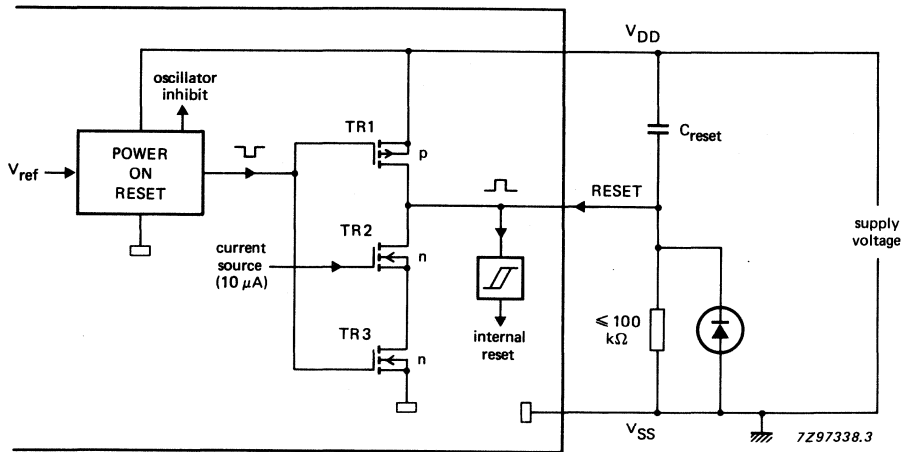

Fig. 24 Stretched power-on-reset with external components.
2. If  $V_{DD}$  has a slow rise time then the RESET signal should be stretched by an external RC circuit (see Figs 24 and 25). In the event of a short drop in the supply voltage, the diode path rapidly discharges the capacitor to ensure a reliable power-on-reset. To ensure a correct reset, the RESET signal should reach at least 70% of the final value of  $V_{DD}$ . Given that the RESET voltage and  $V_{DD}$  rise exponentially, the above requirement is satisfied when the time constant  $\tau$  of the RESET pulse is  $> 8$  times the time constant of  $V_{DD}$ . If  $V_{DD}$  rises linearly, then a RESET time constant  $> 2$  times the rise time of  $V_{DD}$  is required.